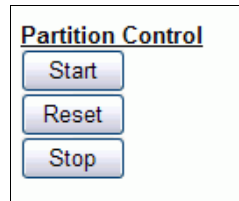

Figure 4-19 RSA II Web interface: Partition Control buttons
- ▶ Partition Control buttons are shown in Figure 4-19.